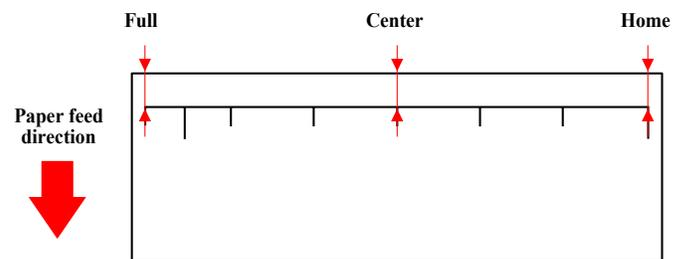

Figure 4-65. Adjustment Pattern
4. Measure the distances of three points, Home, Center, and Full shown in Figure 4-65.